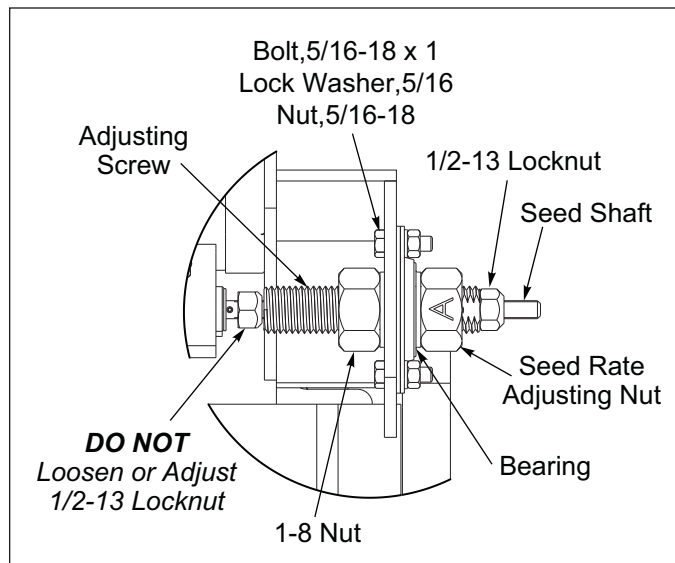

Figure 2-54: RH Support Bracket Detail
7. Remove the 5/16-18 hardware that attaches the Seed Rate Adjusting Bearing Flangettes to the RH Support Bracket. Remove the 1/2-13 Locknut from the end of the Seed Shaft. Remove the Adjusting Screw, 1-8 Nut, Bearing with Flangettes and Seed Rate Adjusting Nut together as one assembly. **See Figure 2-54.**
23. Slide the assembly of the Adjusting Screw, 1-8 Nut, Bearing with Flangettes and Seed Rate Adjusting Nut onto the front Seed Shaft. Attach the Bearing Flangette to the RH Extended Support Bracket with 5/16-18 x 1 Bolts, Lock Washers, and Nuts. Thread 1/2-13 Locknut onto the end of the front Seed Shaft. **See Figure 2-54.**